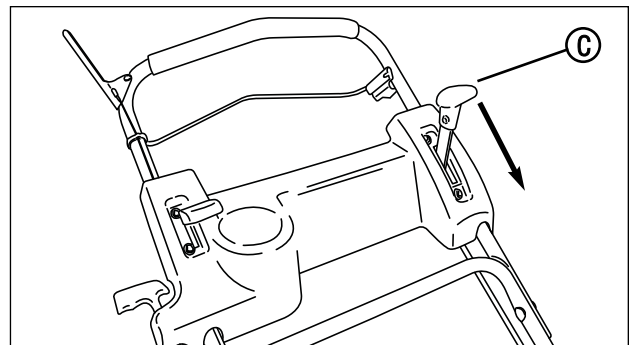

Figure 25: The ground speed control
1. Move the ground speed control (A, Figure 25) into the 'fast' position.